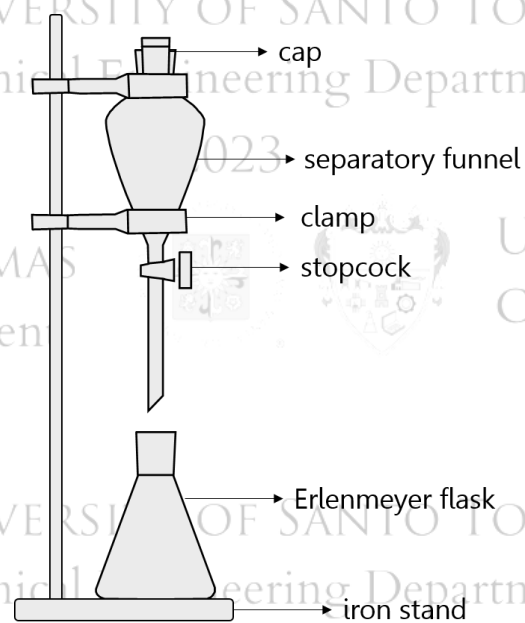

Figure 2. Separatory funnel
9. Transfer the mixture in a separatory funnel (as shown in Figure 2) containing 15 mL of saturated NaHCO_3 solution. Secure the funnel with the cap.